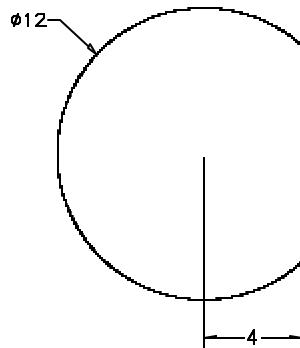

Figure 24-92 Sketch for the base of the model
1. Open a new file and then draw the sketch for the base of the model as shown in Figure 24-92. Convert it into a region using the **Region** button in the **Draw** toolbar.